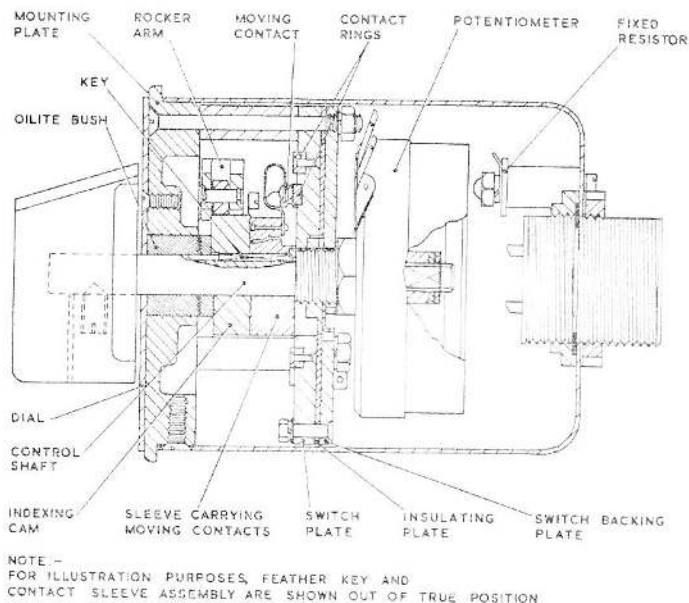
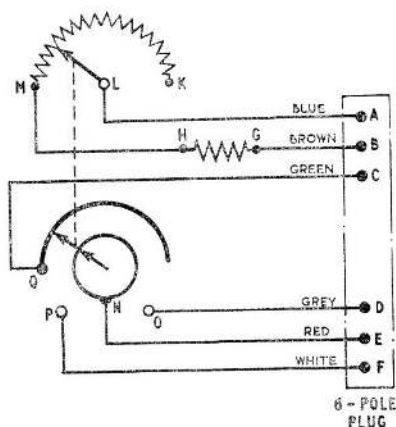

Fig. 1. Sectional view of temperature selector, Type FHK, automatic and manual control
Fig. 2. Temperature selector, Type FHK, automatic & manual, circuit diagram
2. Temperature selectors in this group are similar in construction to the typical selector described in the main chapter, except that they have in addition contact rings and contacts (fig. 1), and a 6-pole in lieu of a 2-pole Mk. 4 plug (fig. 2). Each selector weighs approximately  $9\frac{1}{2}$  oz., and the overall dimensions are  $2\frac{3}{8}$  in.  $\times$   $2\frac{3}{8}$  in.  $\times$  4 in. long.